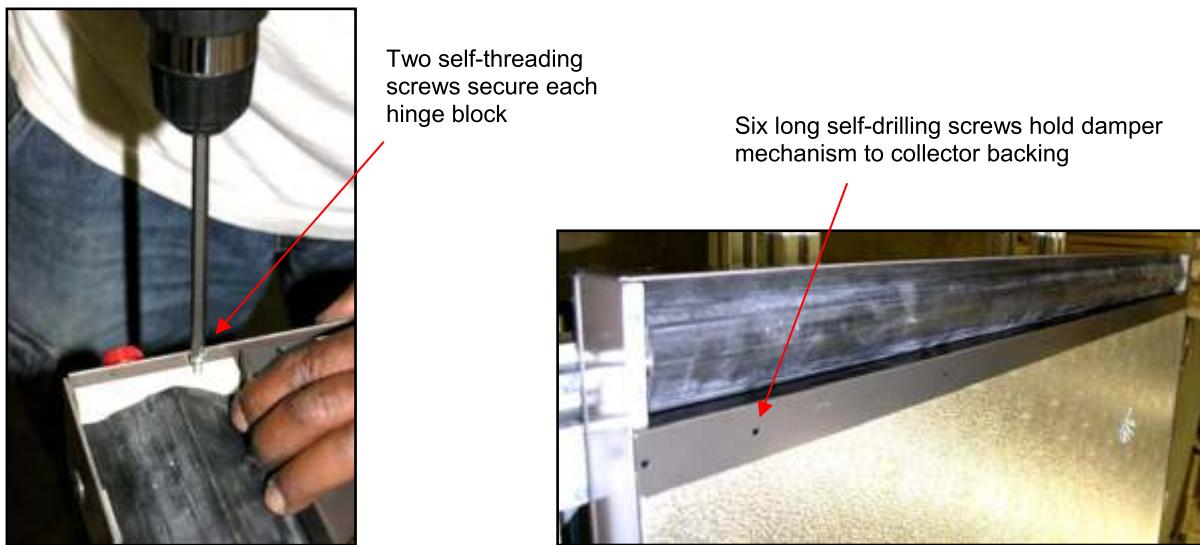

Fig. 6.1.3 – Swapping stagnation-control device and grill
2. Remove and set aside ten screws that hold stagnation-control device in place at top of collector. Six long self-drilling screws hold the mechanism to aluminum backing. Four self-threading screws hold white plastic hinge blocks (two screws per block) to frame at each end of it (Fig. 6.1.3). Note function and orientation of plastic hinge blocks and remove them.